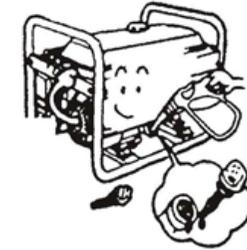

Figure 12
- Re-screw in the oil filler cover/dipstick and fasten it securely (Figure12)